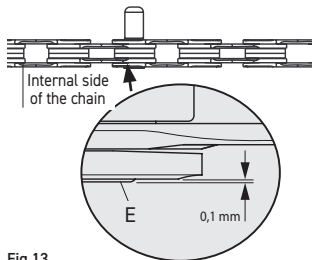

Fig.13
In order to minimize the possibility of damaging the chain irreparably, **DO NOT TIGHTEN** the tool beyond the beat. Let the bushing **ULTRA-LINK 5-CN-SR700 (E)** protrude 0.1 mm from the inner side of the chain (**Fig. 13**).